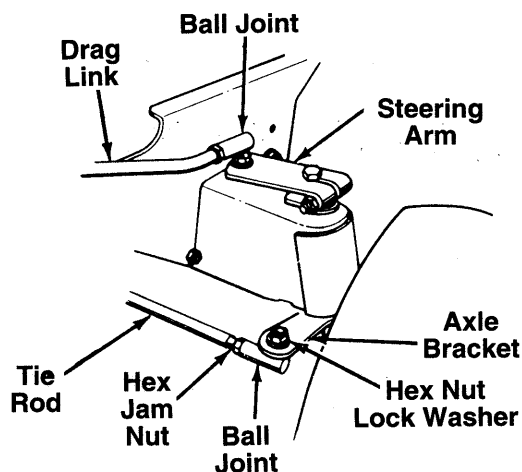

FIGURE 17.—Units with adjustable tie rods
1. Remove the hex nut and lock washer, and drop the end of the tie rod from the axle bracket. See figure 17.
To take off the drag link, remove the nuts and lock washers holding the ball joint to the steering gear and right front axle bracket. See figure 17.